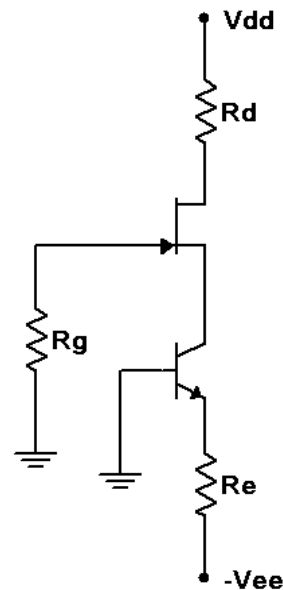

Figure 4
9. Consider the circuit of Figure 4 using $V_{dd} = 15$ volts, $V_{ee} = -5$ volts, $R_d = R_e = 4.7 \text{ k}\Omega$ and $R_g = 330 \text{ k}\Omega$. Calculate and record the expected voltages for JFET 1 in Table 6. Also record the expected drain current in Table 7.
10. Build the circuit of Figure 4 using $V_{dd} = 15$ volts, $V_{ee} = -5$ volts, $R_d = R_e = 4.7 \text{ k}\Omega$ and $R_g = 330 \text{ k}\Omega$. Measure and record the voltages for JFET 1 in Table 6. Based on V_D , compute and record the experimental drain current in Table 7. Also find and record the drain current deviation.
4. In general, identify two ways of increasing the drain current in the circuit of Figure 4.